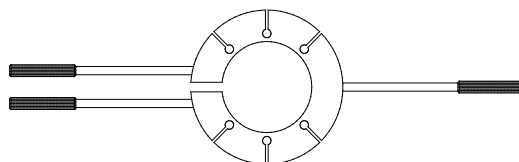

Fig. 10.40
The mass removal of cylindrical roller bearing inner rings, as happens when overhauling railway axle box bearings, the appropriate tools are, **thermo rings**, see fig. 10.40
**Thermo rings** are slotted rings from solid aluminium with thermal insulated handles (fig. 10.40) .